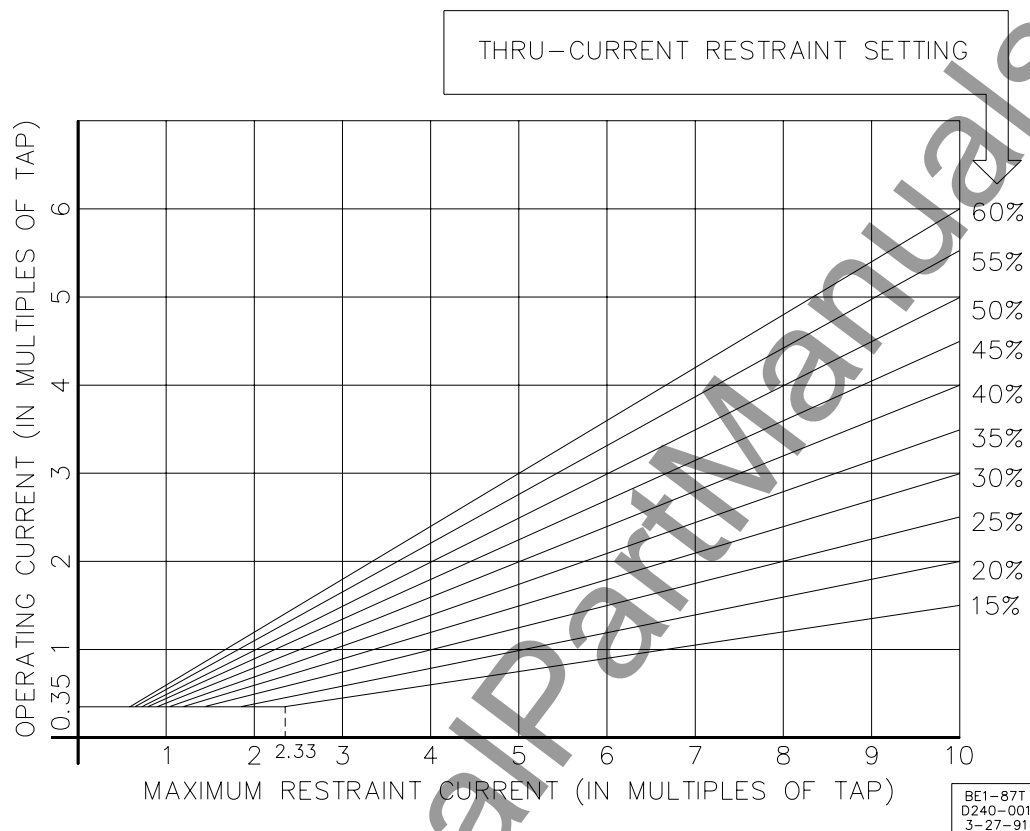

Figure 1-2. Percentage Restraint Characteristic
0.35 ± 6 % of tap setting. Refer to Table 1-1 and Figure 1-2. Table 1-1 provides calculated intersection points of the slope characteristic and the minimum pickup (in multiples of tap) as shown in Figure 1-2. The calculation was derived from the formula:
The relay operates when the per unit difference current (operating current) is above the 0.35 pu or the slope line in Figure 1-2. Calculation examples are found in Section 5.